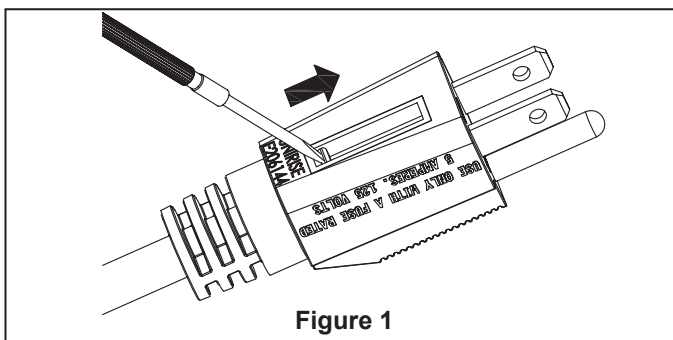

Figure 1
- ☐ 1. Carefully remove from package. Plug cord directly into the electrical outlet. (Figure 1)
2. Slide open fuse access cover on top of the plug, pushing away from the cord and toward the blades (Fig. 1).